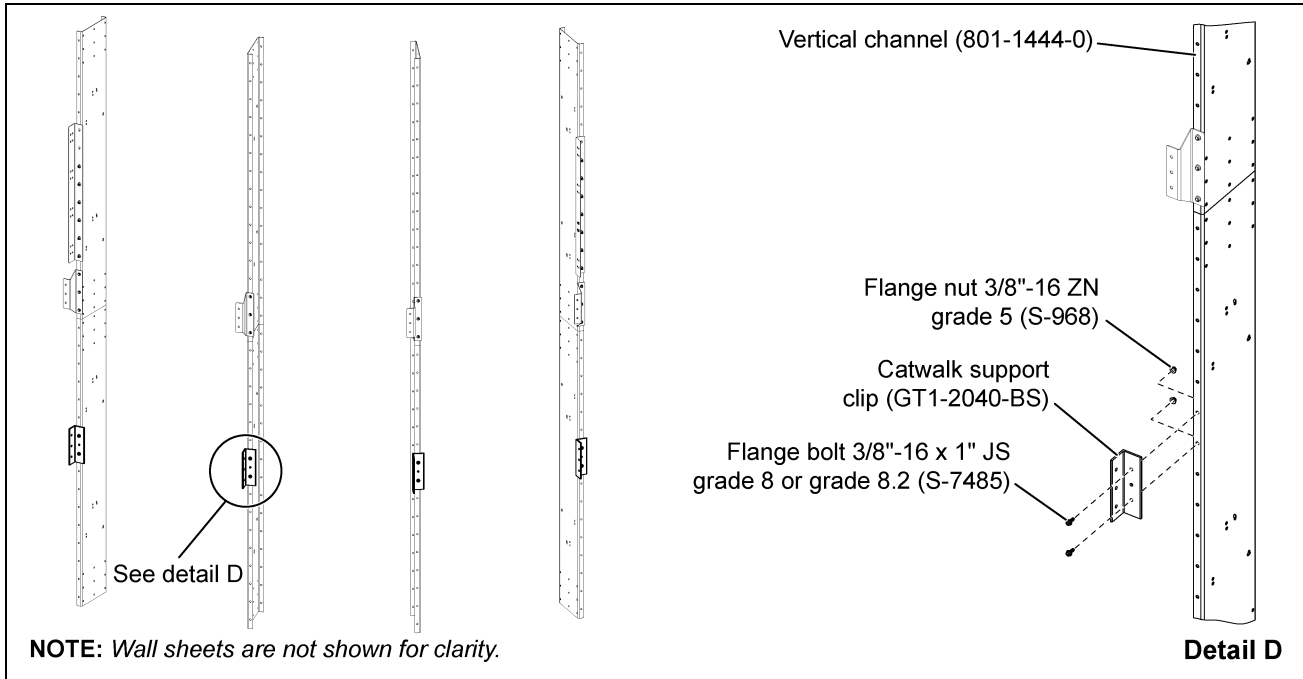
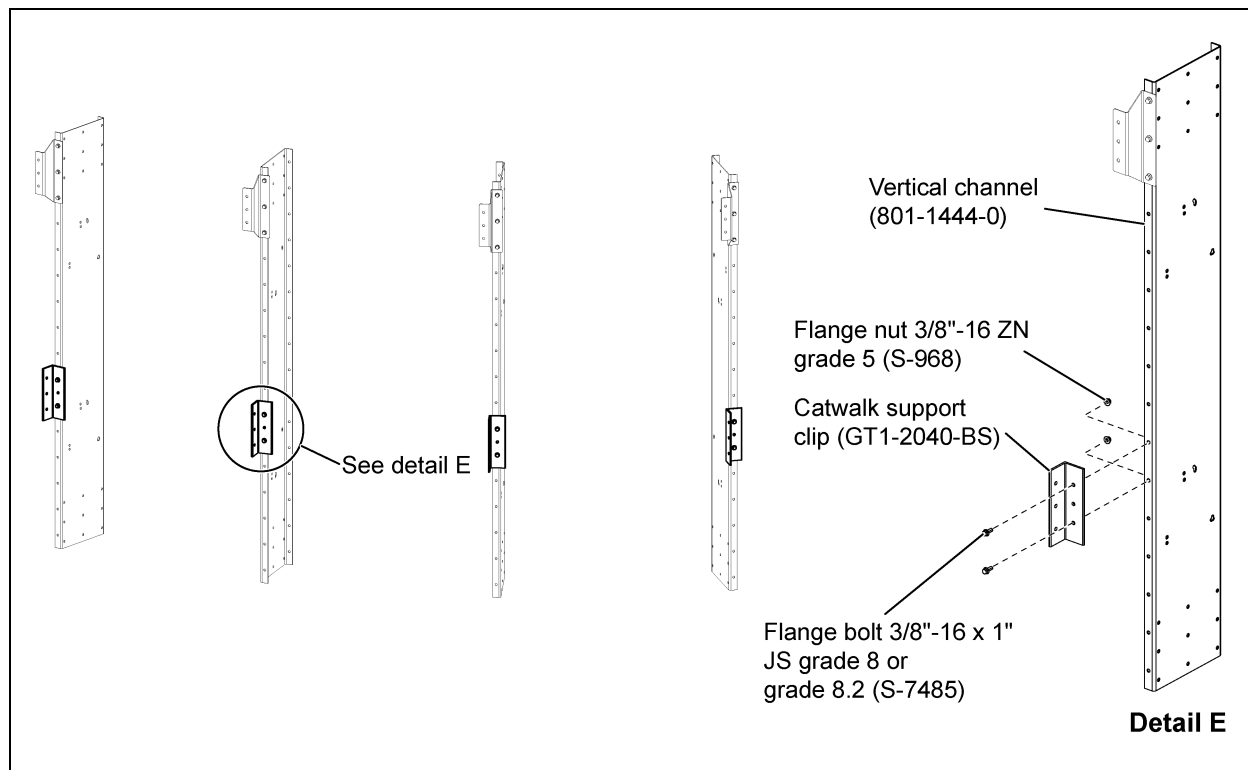

Figure 6G Offset Catwalk Support Clip Installation
Figure 6I Roof Hatch Catwalk Support Clip Installation
1. Install catwalk support clips (GT1-2040-BS) to vertical channels (801-1444-0). Support clip can be installed on each vertical channel as the wall sheets are installed using 3/8"-16 x 1" JS grade 8 or grade 8.2 bolts (S-7485) and 3/8"-16 ZN grade 5 nuts (S-968). *(See Figure 6G below and Figure 6I on Page 52.)*